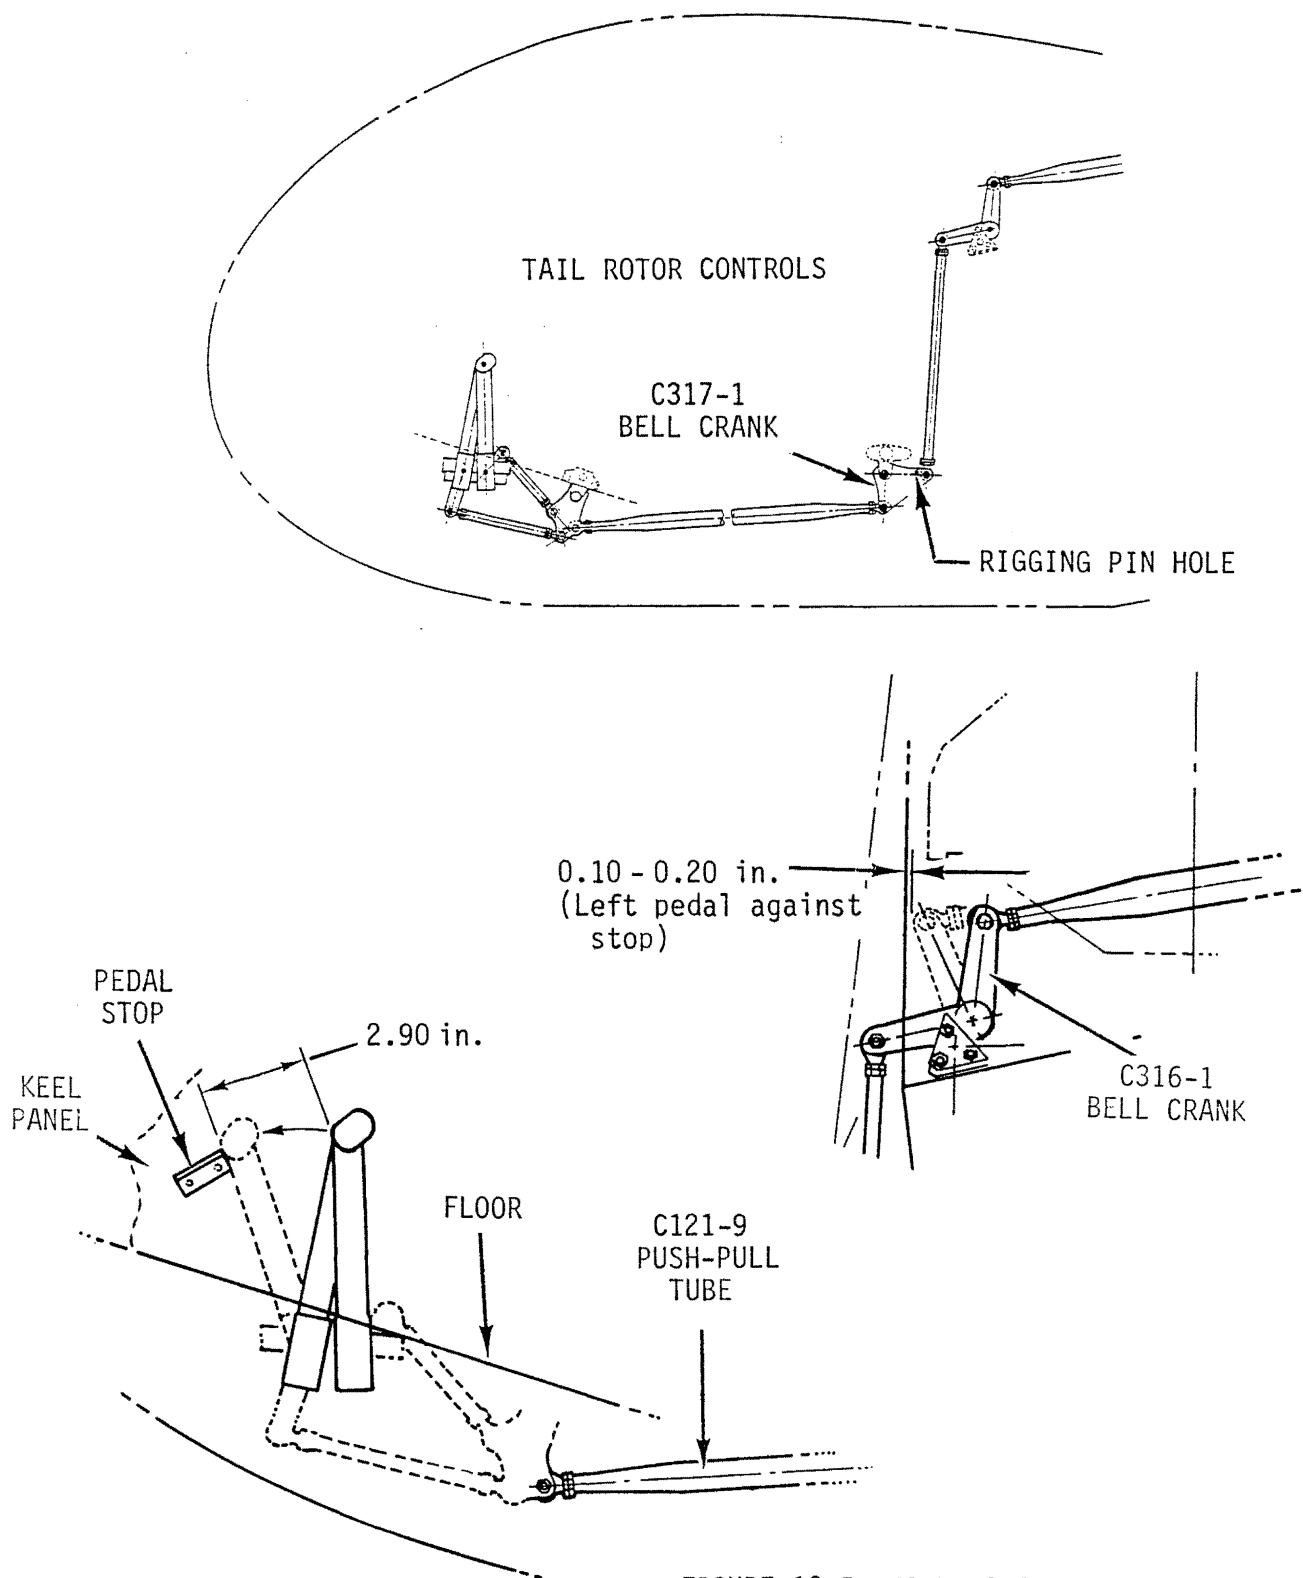

FIGURE 10-5 TAIL ROTOR CONTROL PEDAL RIGGING
#### 10.131 Pedals (See Figure 10-5)
10.132 C316 Bellcrank (See Figure 10-5)